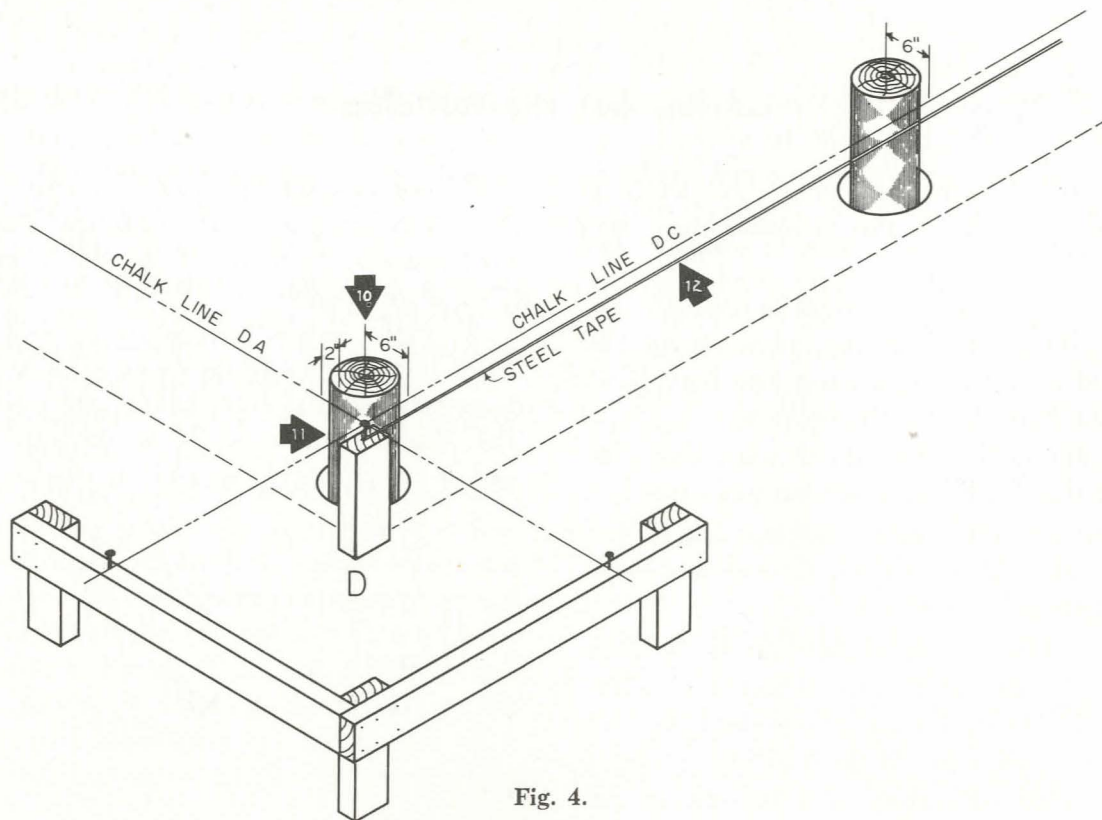

Fig. 4.
10. Determine the four corner-pole locations first (see Fig. 4).